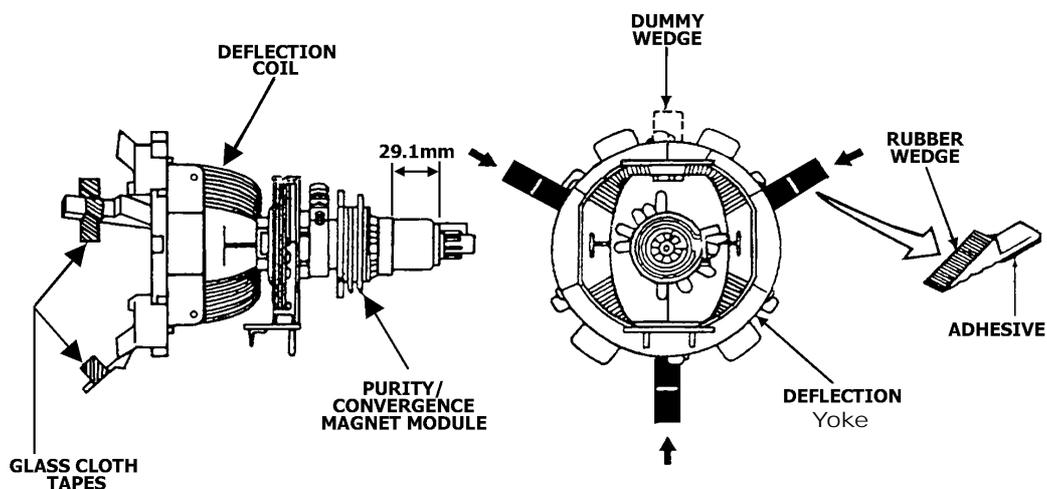

Fig. 14
The purity/convergence magnet assembly and rubber wedges need mechanical positioning. Refer to Fig. 14.
- 2) Temporarily put a wedge as shown in Fig. 14. (Do not remove cover paper on adhesive part of the wedge.)
9) Stick three adhesive tapes on wedges as shown in Fig. 14.